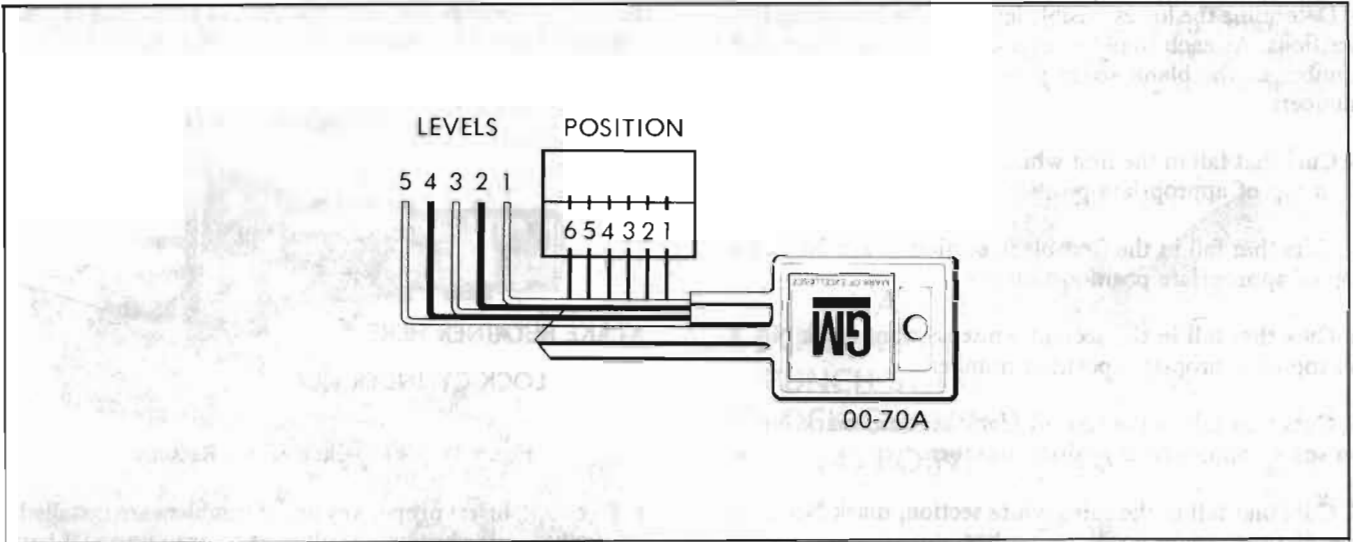

Figure 00-1 - Key Code Diagram
Key code numbers are stamped on the "knock-out" plug in the key head. After the code has been recorded by the owner to facilitate replacements or duplications of a key, the plugs should be knocked out of the key heads. If key code numbers are not available from records or from the "knock-out" plug, the code can be determined by laying the key on the diagram in Figure 00-1, or from the ignition lock cylinder housing and glove compartment lock assemblies themselves. The station wagon ignition lock cylinder will be marked with the key code number for the tailgate lock cylinder, the door lock cylinders and ignition lock cylinder.
For "A" type lock cylinders assemblies, the key code number is stamped on the ignition lock cylinder housing; for "B" type lock cylinder assemblies, the number is stamped on the glove compartment (marked on the tumbler carrying plug) lock cylinder. From these numbers the lock combination can be determined by use of a code list for cutting new keys for coding a replacement service lock cylinder assembly. Door lock, rear compartment, and tail-gate lock cylinders coded by the car division do not have key code numbers stamped on them; therefore, codes may be determined either from a ignition or glove compartment lock cylinder of the same car which will have the same lock tumblers, or from the key code diagram. See Figure 00-1.
1. Lay the key on the Key Code Diagram, Figure 00-1, with the key outlined by the diagram as accurately as possible.